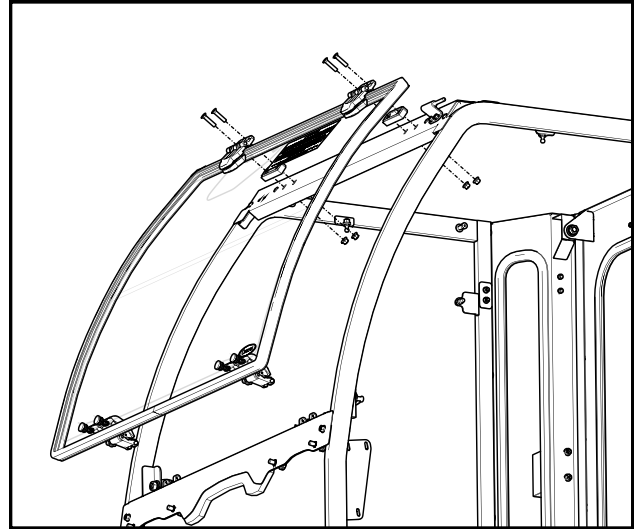

Fig. 13.1 (Windshield Installation)
13.1 Install the windshield to the windshield support using (1) plastic spacer block underneath each upper plastic hinge to space it off the windshield support. Snug fasteners, but **do not tighten fully**. See Fig. 13.1.